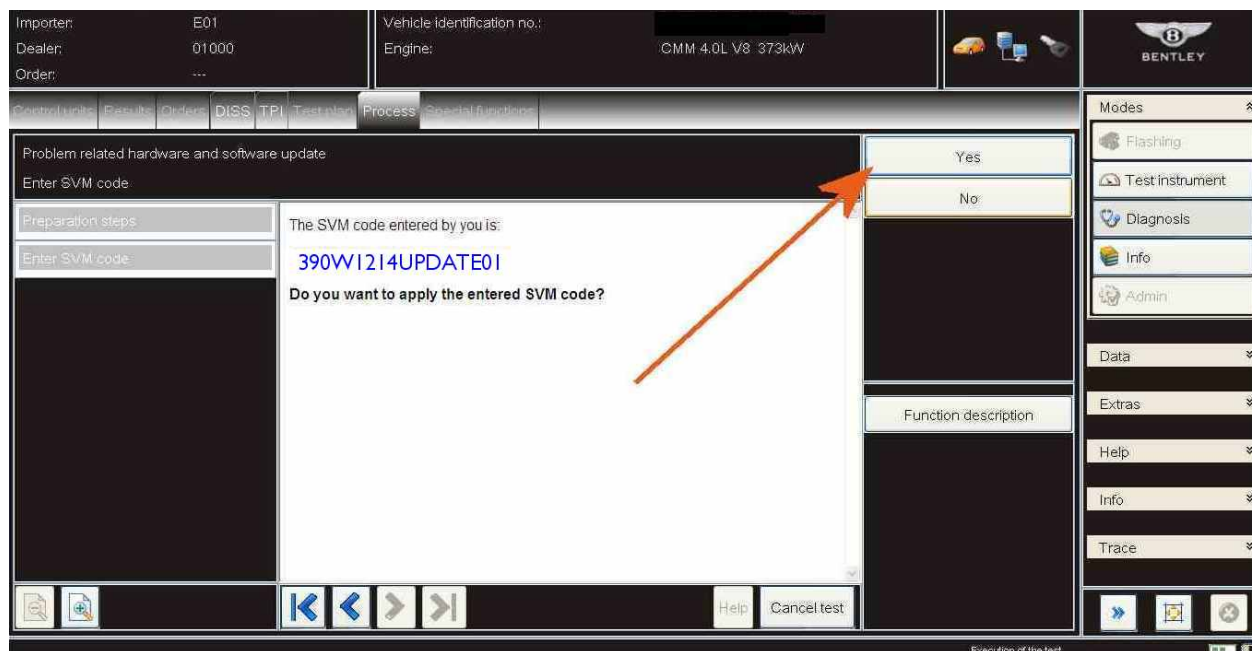

Figure 10
- Once the vehicle specific code is entered, Select Yes as shown in Figure 10 and follow all on screen prompts